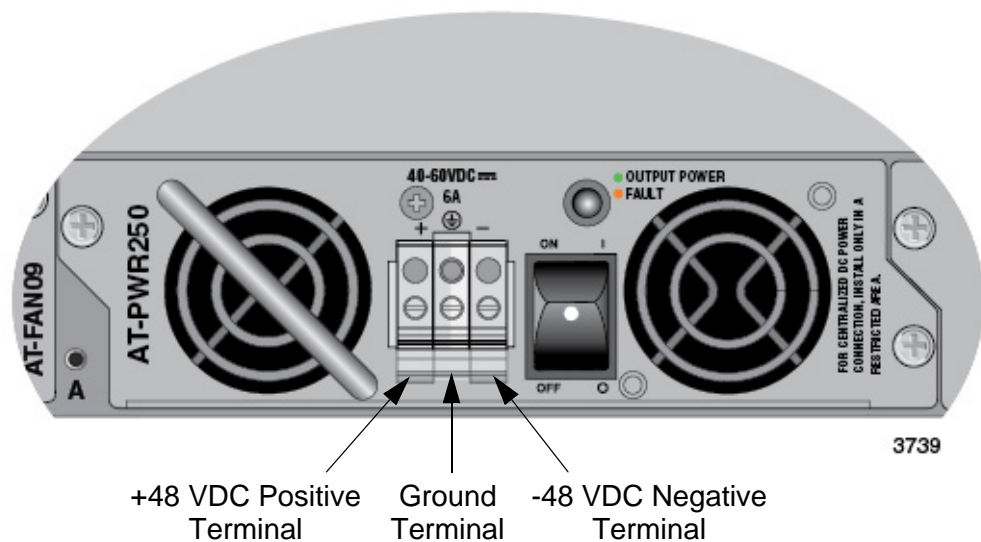

Figure 29. DC Terminal Block
3. Use the legend above the terminal block to identify the terminals. The terminals are **positive**, **power supply ground** and **negative**, from left to right, as shown in Figure 29.